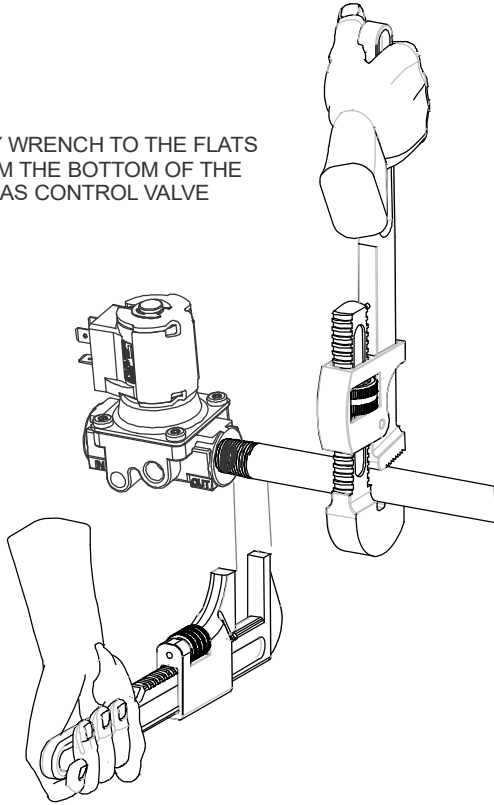

Figure 3: Proper Use of Wrench on Gas Control
10. Connect pipe to gas controls inlet and outlet. Use a wrench on the square ends of the control. If a flange is used, place the wrench on the flange rather than on the controls. This process should be used for both the install and removal of the valve in a gas system. (see Figure 3)